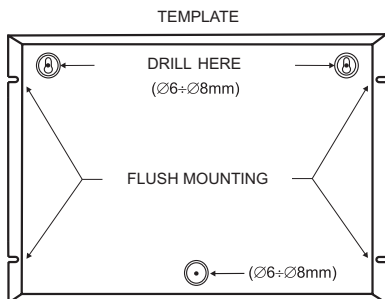

Figure 4.
- Use the template supplied to determine the openings of the metal bottom onto the wall - Figure 4.